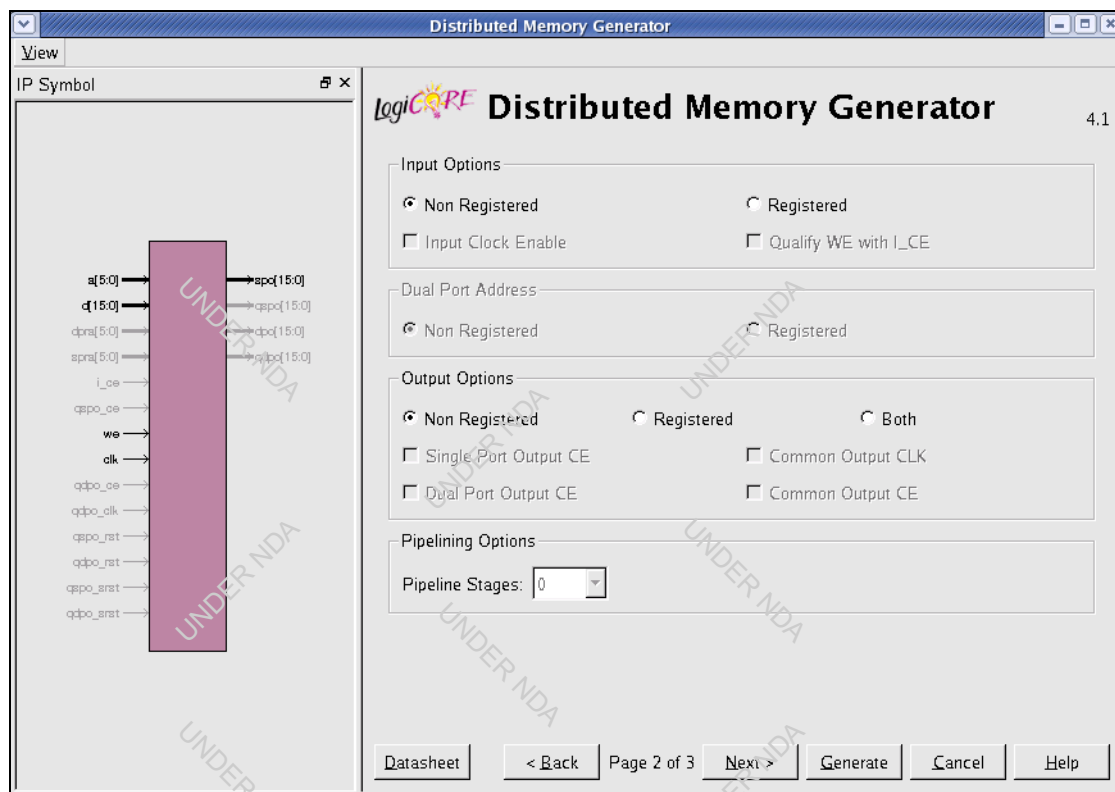

Figure 10: Distributed Memory Options Screen
- Input, Dual-Port, and Output Options Screen (Figure 10)